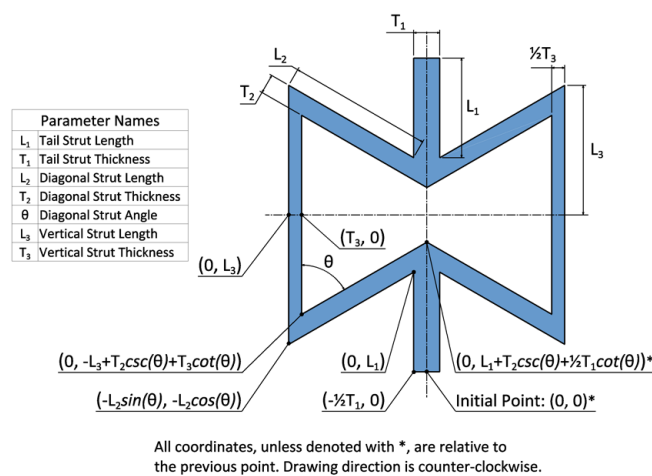

Fig. 2.1: The 'Full Parameters' variant of the Re-Entrant 2D unit cell
This is the basic variant that gives the most amount of modeling freedom. All other variants are converted to this variant. Use of this variant for non-uniform structures is not recommended. Fig. 2.1 shows this unit cell variant and the points that need to be traced to draw it.
After drawing a sketch based on the points in Fig. 2.1, the dimensional constraints are defined. It should be noted that only one quarter of the model is drawn, which is then mirrored twice to obtain the final sketch.
- In the distance between the initial point in the unit cell and the final drawn point which is on top of it in Fig. 2.1 must be the same for all models.